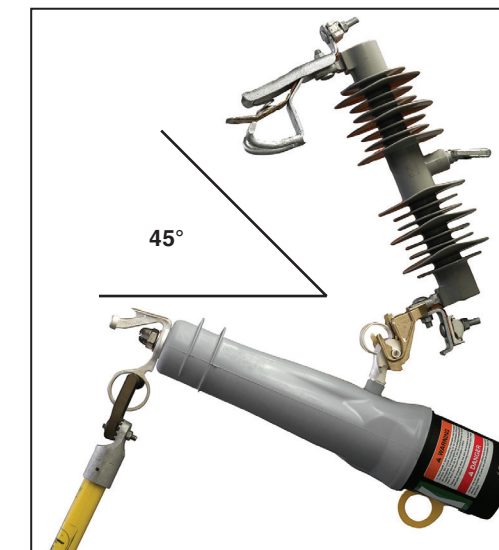

Figure 3. A VacuFuse II interrupter within approximately 45 degrees of the fully Closed position.
**STEP 4.** Swing the VacuFuse II interrupter to within approximately 45 degrees of the fully **Closed** position. See Figure 3.